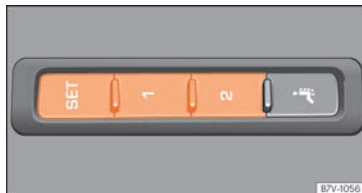

**Fig. 136** Memory buttons on the outside of the driver seat
» **Fig. 136.**
- Press and hold the **SET** button  **»»» Fig. 136.**